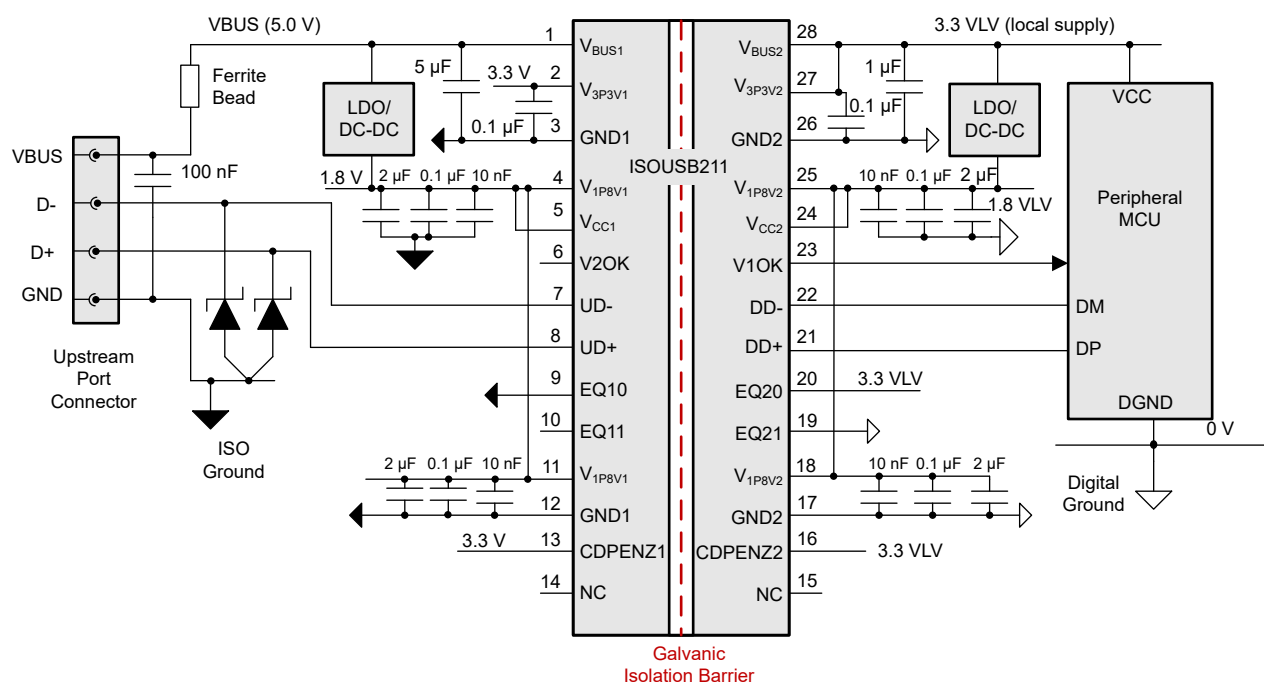

Figure 5-3. Using ISOUSB211 With External 1.8V Supply On Both Sides
- For achieving highest ambient temperature range, using external 1.8V supply on both the sides is recommended (see Figure 5-3). For more information, see Operation With External 1.8V Supply.
The device can also be supplied with external 1.8V supply on both the sides. In this configuration, the internal 1.8V LDOs on both the sides do not consume any power from the VCC pins which minimizes the internal power dissipation of the device. Figure 5-3 shows this example configuration.